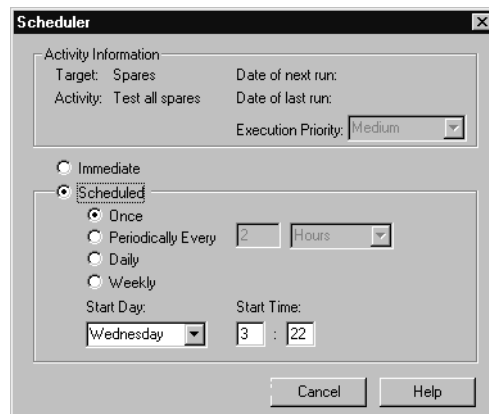

Figure 8-1. Scheduler Dialog Box
- 1 Define a new scheduled operation: Reconstruct an Array, Verify Integrity of Array, or Test All Spares. The Scheduler dialog box appears, as shown in Figure 8-1.
To view more detailed information about the activity, right-click the **Activity** icon and select **Properties** from the drop-down menu. The Scheduler dialog box appears, as shown in Figure 8-1. Click **Cancel** to close the dialog box.